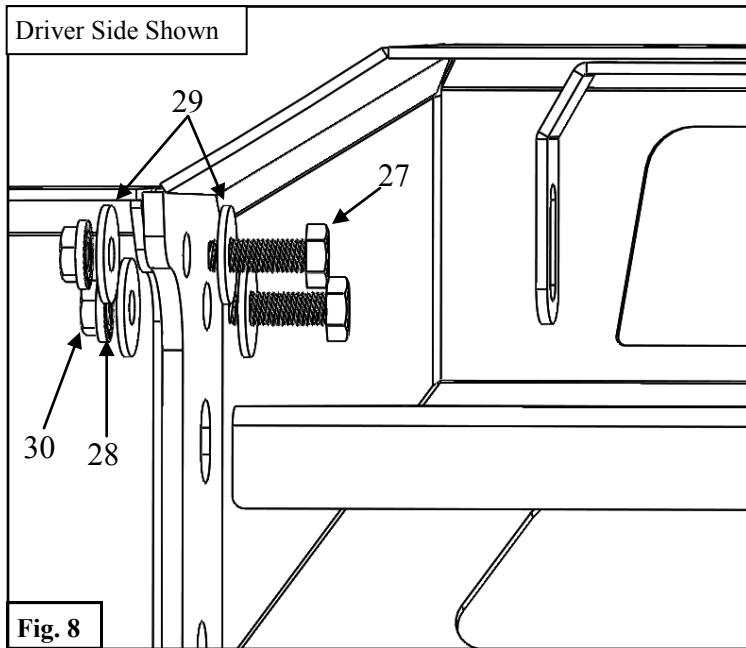

Fig. 8
- 8. Use the supplied M10 Hardware to attach each Side Pod Assembly (1,2) to the Center Section (4). See Figure 8.